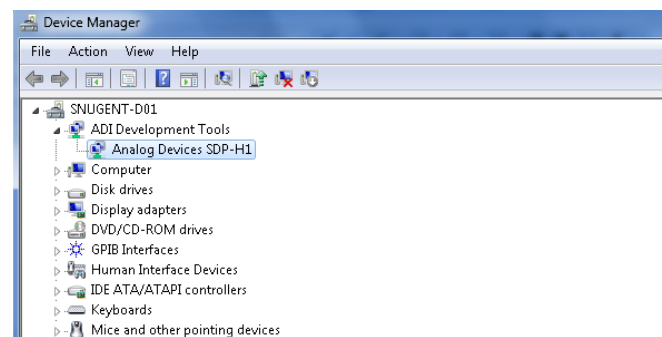

Figure 11. Device Manager:
- b. Under **ADI Development Tools**, **Analog Devices** **SDP-H1** should appear (see Figure 11), indicating that the EVAL-SDP-CH1Z driver software is installed and that the board is connected to the PC correctly.